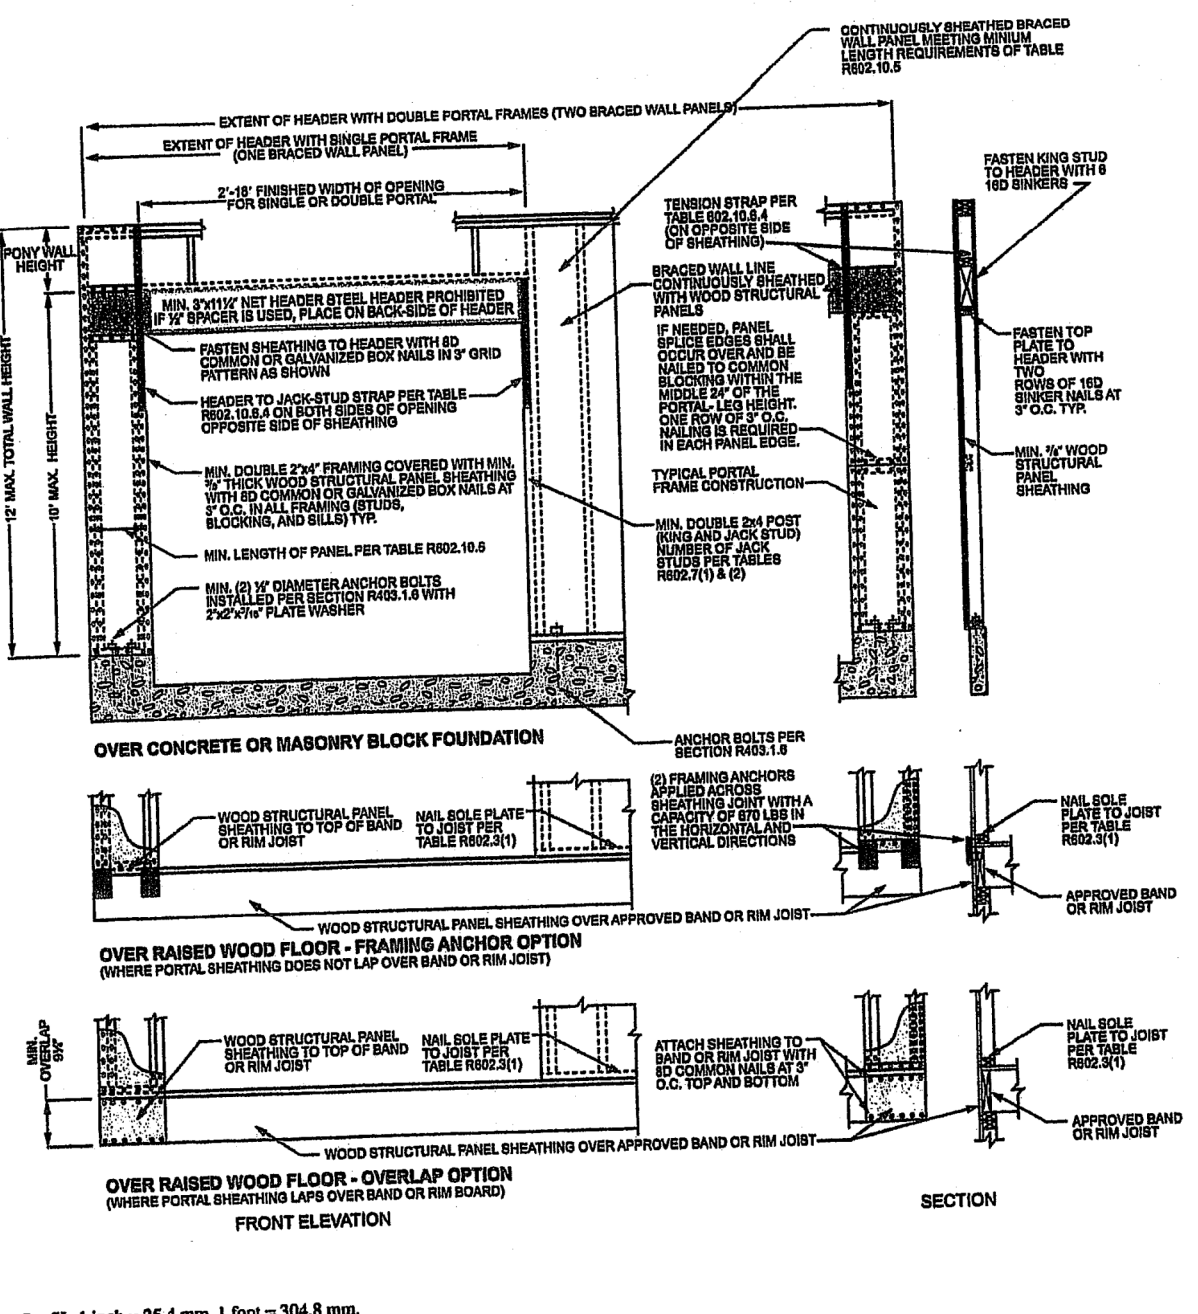

FIGURE R602.10.6.4 METHOD CS-PF—CONTINUOUSLY SHEATHED PORTAL FRAME PANEL CONSTRUCTION
e. Maximum header height for CS-PF is 10 feet in accordance with Figure R602.10.6.4, but wall height shall be permitted to be increased to 12 feet with pony wall.